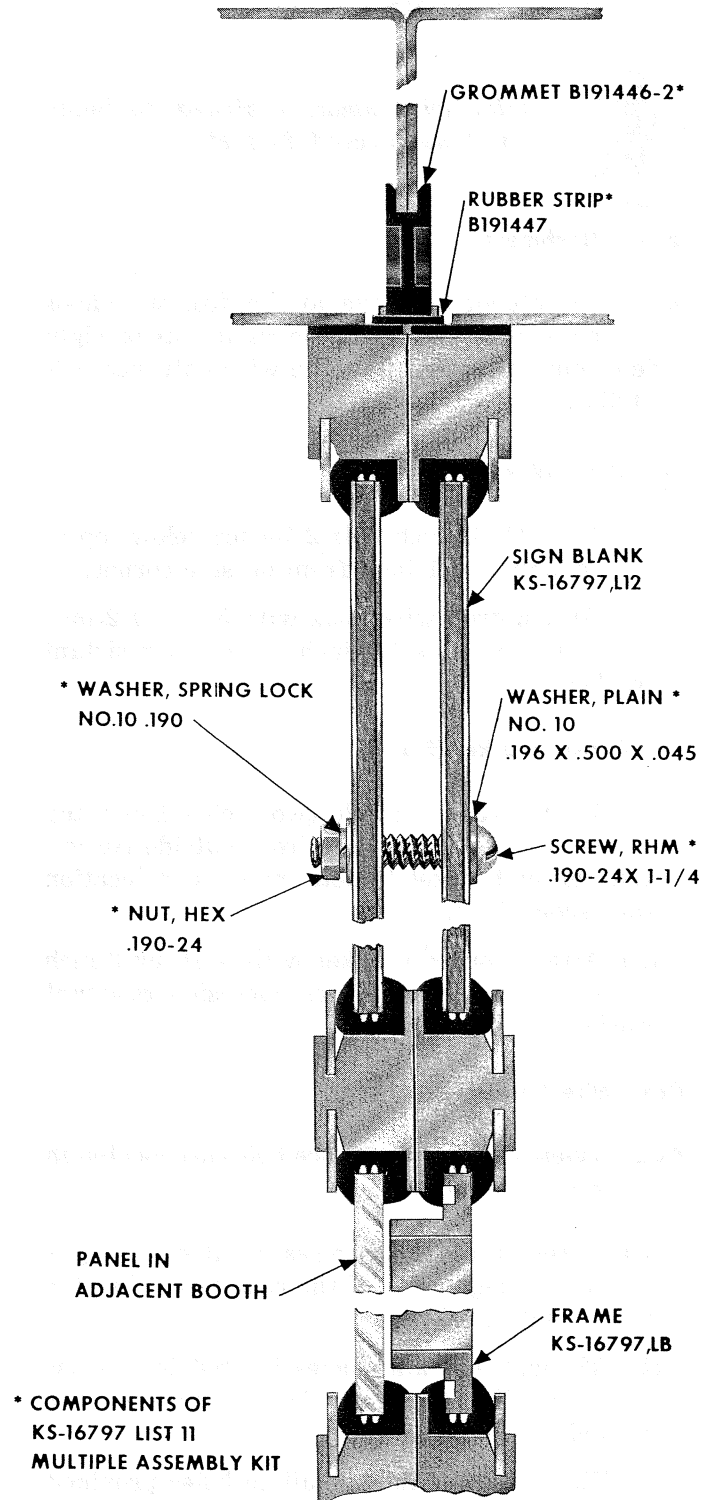

Fig. 3 — Connecting Booths
- (f) Add Fig. 3, 4, 5, 6, 7, 8, 9, and 10.
3. MULTIPLE BOOTH INSTALLATIONS (FIG. 3)
3.02 A KS-16797, List-11 multiple assembly kit (Fig. 3) for joining booths together is available. This assembly kit consists of: